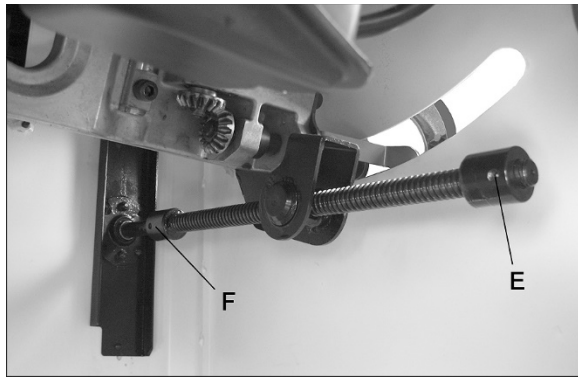
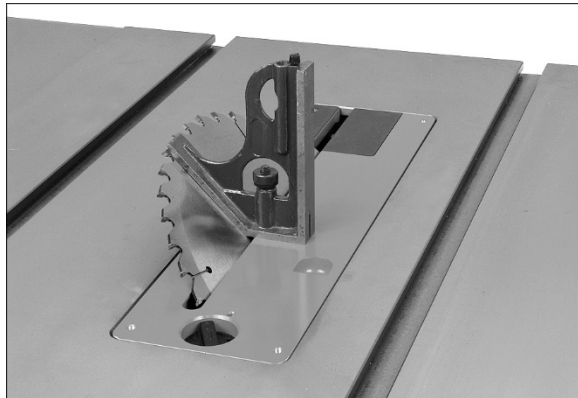

Figure 8-3
Figure 8-4
6. Back out the setscrew in the 90° stop collar (E, Figure 8-3), and position collar to allow further movement of shaft bracket.
8. Turn stop collar until it contacts shaft bracket and tighten set screw (E).
9. Tilt blade to 45° and verify setting in the same manner as above. See Figure 8-4. Adjust 45° stop collar as needed (F, Figure 8-3).